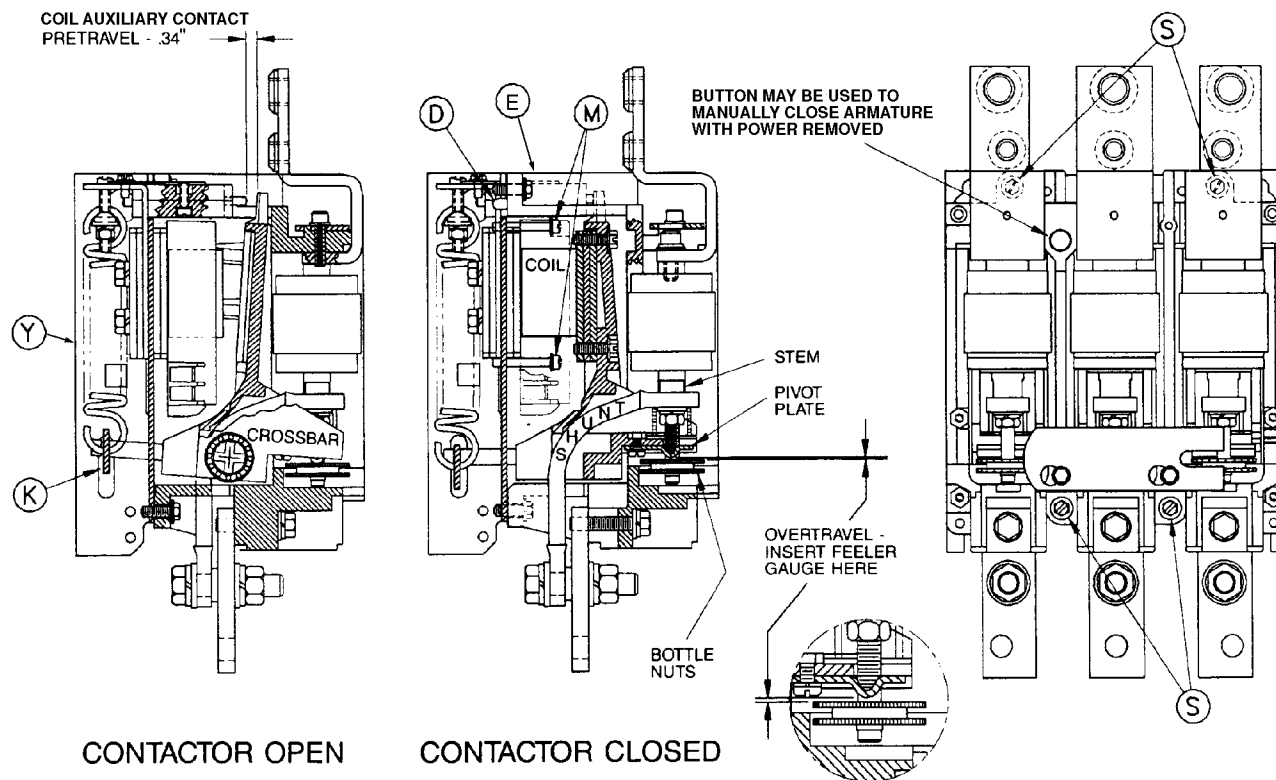

Figure 1 Size 6 Vacuum Contactor, Class 8502 Type WHO
When the contactor is fully closed, there is a gap between the pivot plate and the bottle stem as shown in Figure 1 on page 5. This gap is a measurement of the contact overtravel and is equivalent to the contact wear allowance provided on a new contactor. During the life of the contactor, contact material continually vaporizes from the contact faces and condenses inside the bottle, reducing the overtravel. Periodic measurement of this overtravel provides an indication of contact wear. **Do not re-adjust bottle position, which is set at the factory.**
5. Use the 0.020" thick fork-shaped overtravel gauge supplied to measure the gap between the pivot plate and the bottle stem as shown in Figure 1 on page 5. If the gap is more than 0.020" on all bottles, the contacts are suitable for further use. If the overtravel gauge will not fit into the gap on any bottle, the contactor must be replaced.
To replace the coil (Refer to Figure 1 on page 5 for item locations):
The nominal 0.34 inch pretravel gap as shown in Figure 1 on page 5, (upper left corner) must be maintained on the normally closed coil auxiliary contact for proper coil operation. If the pretravel gap is too large, the holding winding of the coil will not be inserted as the contactor closes, thereby causing the pickup winding to burn out due to the intermittent rating. If the pretravel gap is too small, the holding winding will be inserted too soon, thereby reducing the force to “hold” before the contactor is closed and causing the contactor to telegraph.
Factory recommended tightening torques are listed in Table 4. To ensure proper device operation, these tightening torques must be followed when installing, assembling or adjusting the device. Refer to Figure 1 on page 5 for item locations.